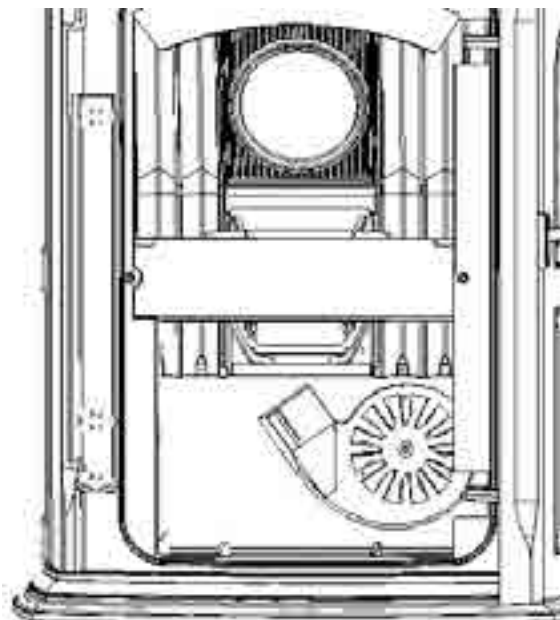

Fig. 38
3. The unit's interior is now ready to clean. Use the scraper provided to clean the heat exchanger surfaces. A wire brush or short bristled brush is an excellent cleaning tool. Clean the fan blade and combustion blower fan housing. NOTE: Be careful not to bend the fan blade while cleaning. A bent blade will throw the fan blade out of balance. See Fig. 38.
4. With the blower housing open, there is easy access to the flue pipe exiting the rear of the unit. See Fig. 38. Vacuum the flue pipe as far into the pipe as possible. NOTE: Be careful while cleaning the flue pipe not to bend the exhaust probe. The ESP is approximately 8" into the tube and is visible when looking into the exhaust.